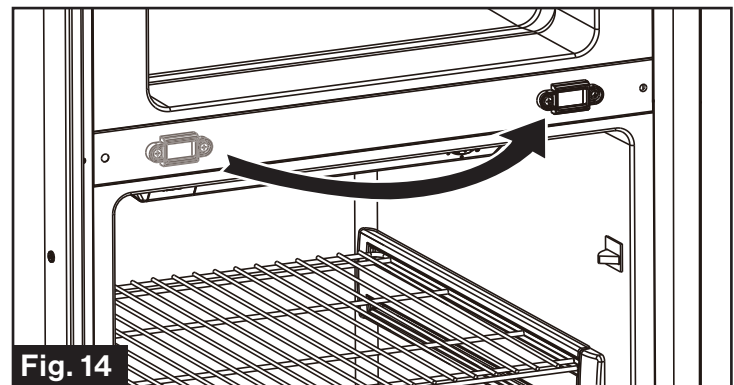

Fig. 14
- Unscrew the Door Latch Bracket fixing screws and change it to the opposite side. (Fig. 14)